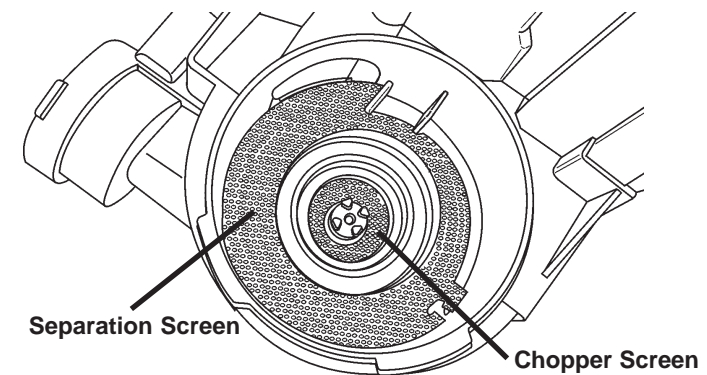

Fig. 3-21
4. With the wash motor removed, the separation screen can be removed from the sump base. (Fig. 3-21)